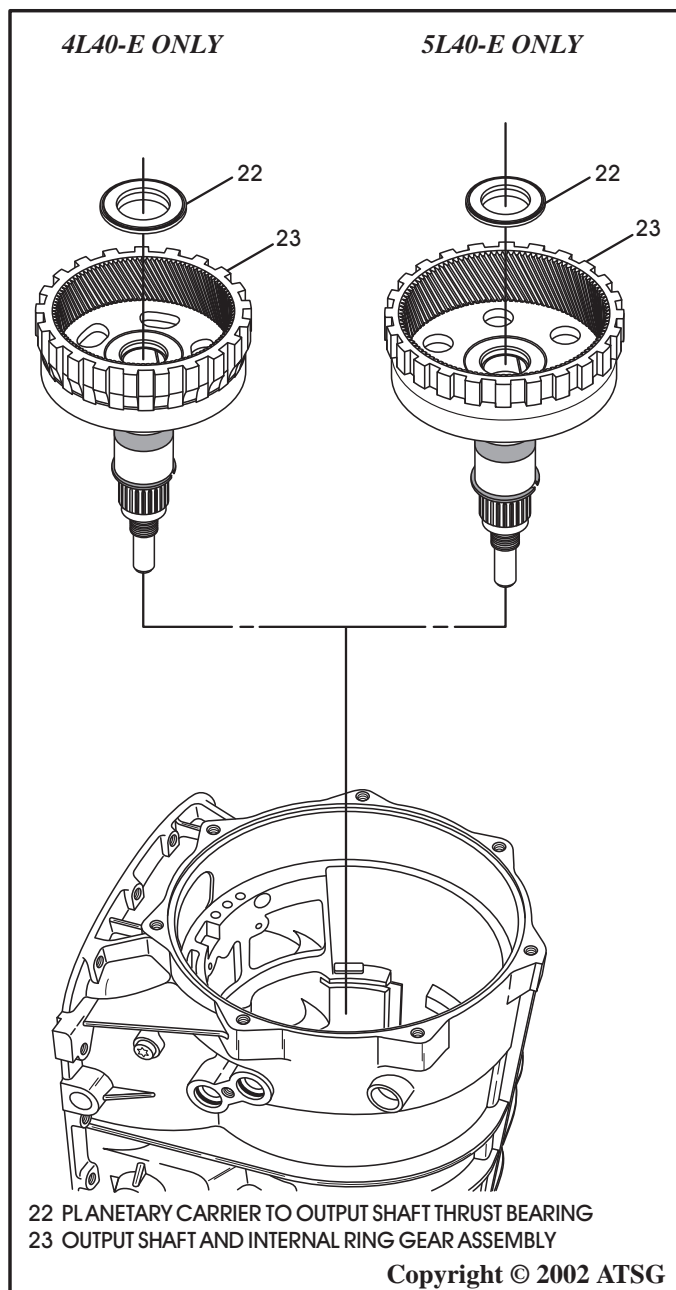

Figure 174
1. Install the pre-assembled planetary internal ring gear and output shaft, along with the thrust bearing, as shown in Figure 174.
Note: We have illustrated both the 4L40-E and the 5L40-E in Figure 174.